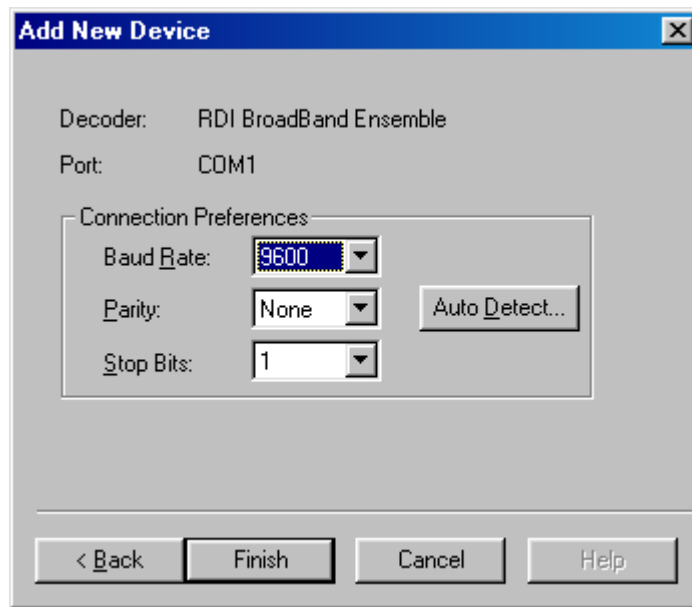

Figure 3. Setting the Communication Settings
- e. Select the baud rate, parity, and stop bits (see Figure 3, page 5). If you are unsure of the settings, use **Auto Detect**.